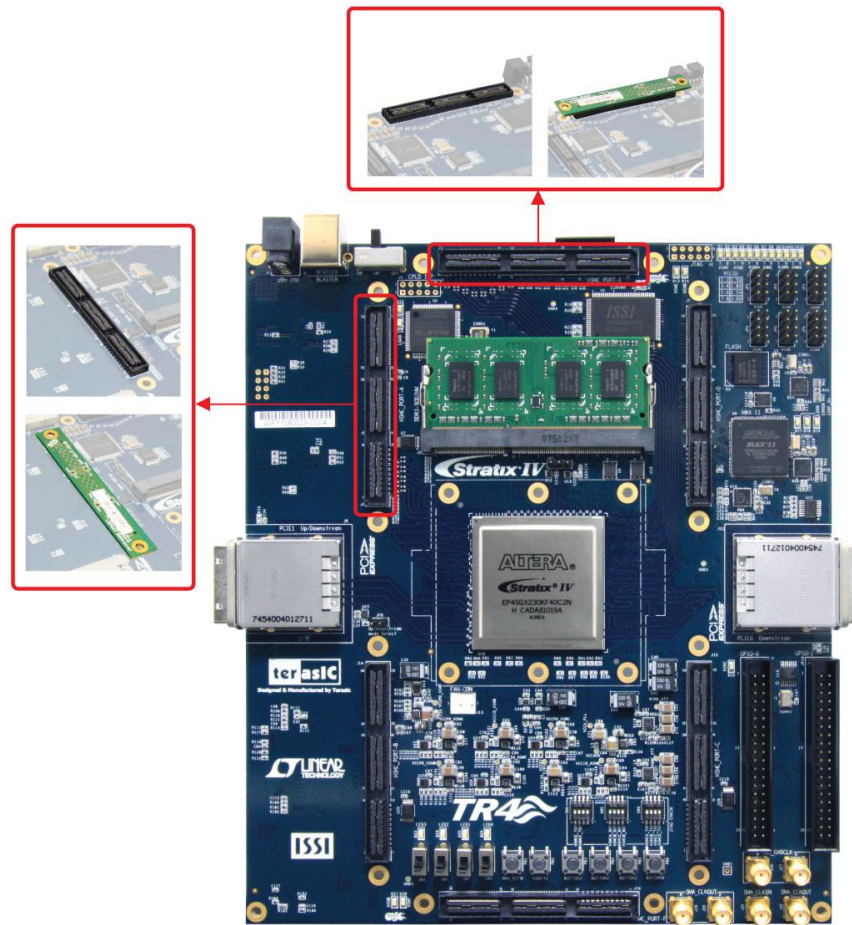

Figure 5-6 HSMC Loopback Design Setup
- Insert the HSMC loopback daughter card onto the HSMC Port E as shown in Figure 5-6.
Figure 5-6 shows the system block diagram of this demonstration. The system requires a 50 MHz clock provided from the board. The DDR3 controller is configured as a 1GB DDR3-1066 controller. The DDR3 IP generates one 533.0 MHz clock as memory clock and one quarter-rate system clock 133.125 MHz for controllers, e.g. Nios II processor, accessing the SDRAM. In Qsys, Nios II and On-Chip Memory are designed running with the 133.125 MHz clock, and the other controllers are designed running with 50 MHz clock which is the external clock. The Nios II program itself is running in the on-chip memory.